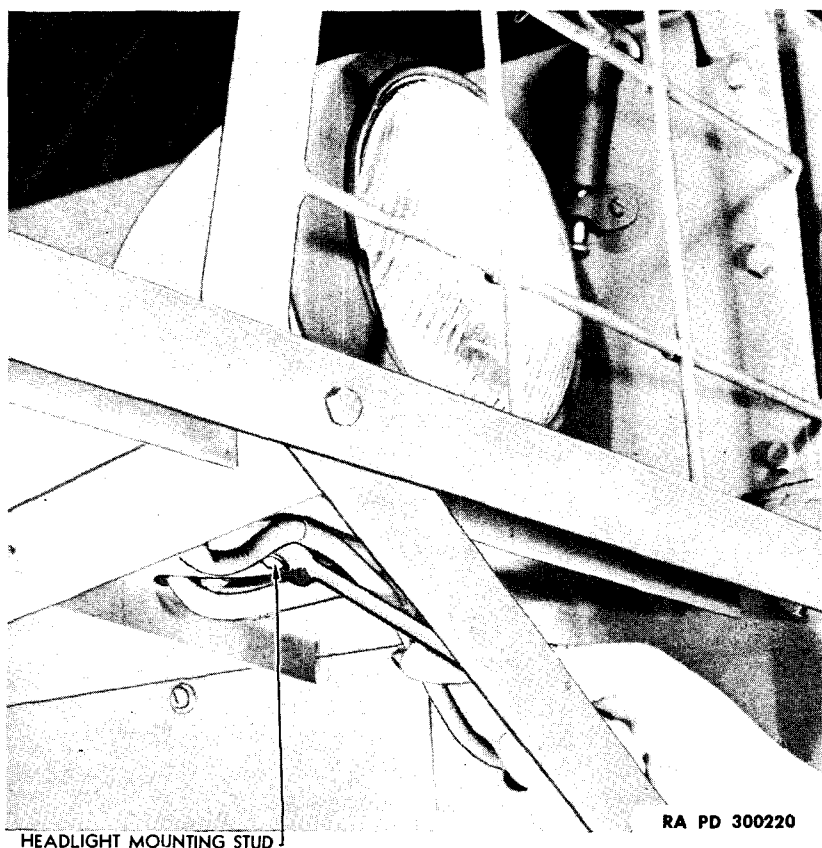

Figure 134—Loosening Headlight Mounting
a. Description. The headlights (fig. 134) are the sealed-beam type; that is, the reflector, lamp, and lens are a complete unit, and can only be replaced as a unit. The lower beam filament is positioned slightly to one side of the focal point in the reflector. This results in deflecting the lower or "traffic" beam to the right side, to illuminate the side of the road when meeting other vehicles.
(1) Place the truck on level floor, street, or ground with tires inflated to recommended specifications.
(2) Place screen 25 feet from the front of the truck and center the screen on the center line of the truck.
(3) Measure from the floor to the center of the headlight and set the horizontal tape on the screen three inches less than this measurement from the floor.
(4) Turn on the headlights (upper beam). Cover one light and check the location of the beam on the screen. The center of the hot
spot should be centered exactly at the intersection of the vertical and horizontal lines on the screen. If aim is incorrect, loosen the nut on the mounting bolt (fig. 134) and move the headlight body on its ball and socket joint until the beam is properly aimed. Then tighten the nut on the mounting bolt. Aim other headlight.